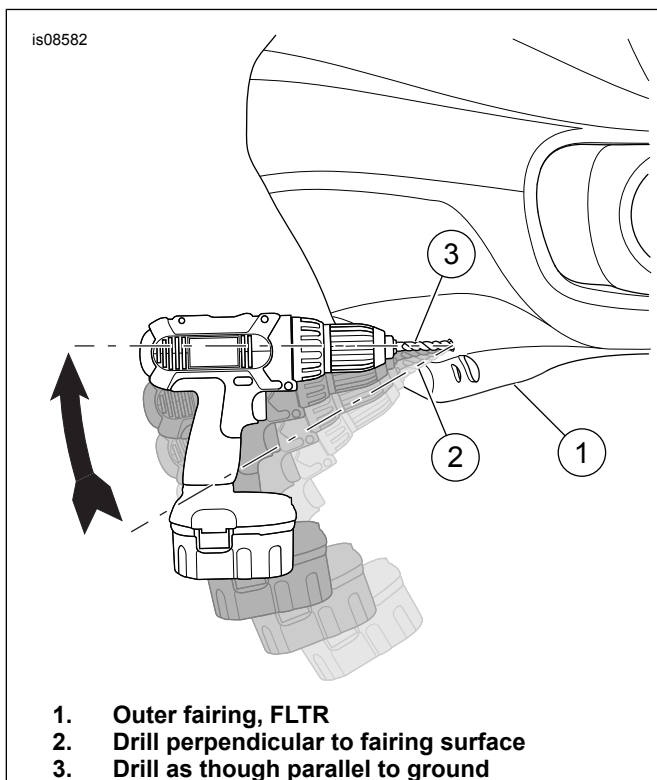
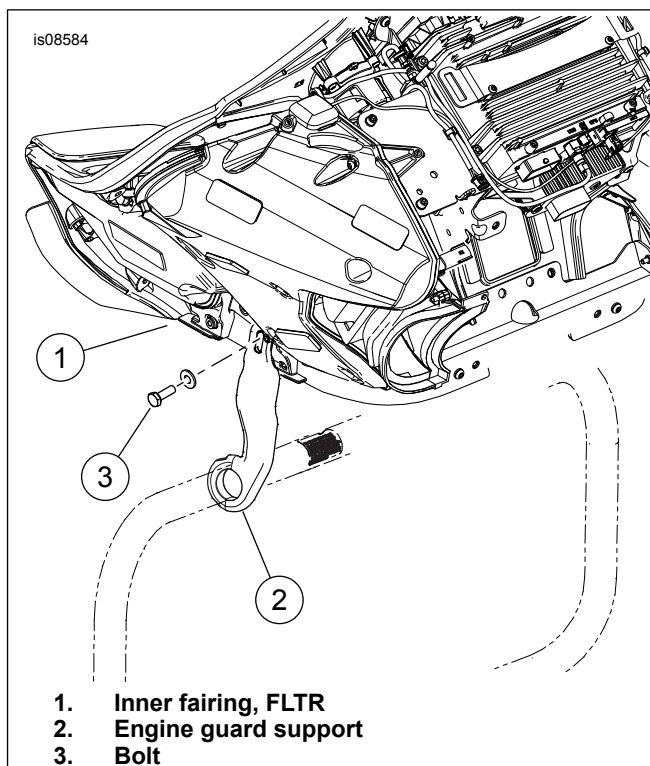

Figure 1. Drill Elongated Hole
Figure 2. Remove Bolt From Engine Guard Support
- a. See Figure 1. When enlarging the hole, drill **perpendicular to the fairing (1) surface (2)** to avoid the bit "walking" and marring the finish.
- b. Once through the hole, continue power to the drill. Tip the drill into the fairing **as though parallel to the ground (3)** in installed position to elongate the hole vertically.
11. See Figure 2. Remove and discard the bolt (3) and washer from the engine guard support (2) on the inner fairing (1). Support the rear part of the inner fairing if necessary. Repeat on other side.